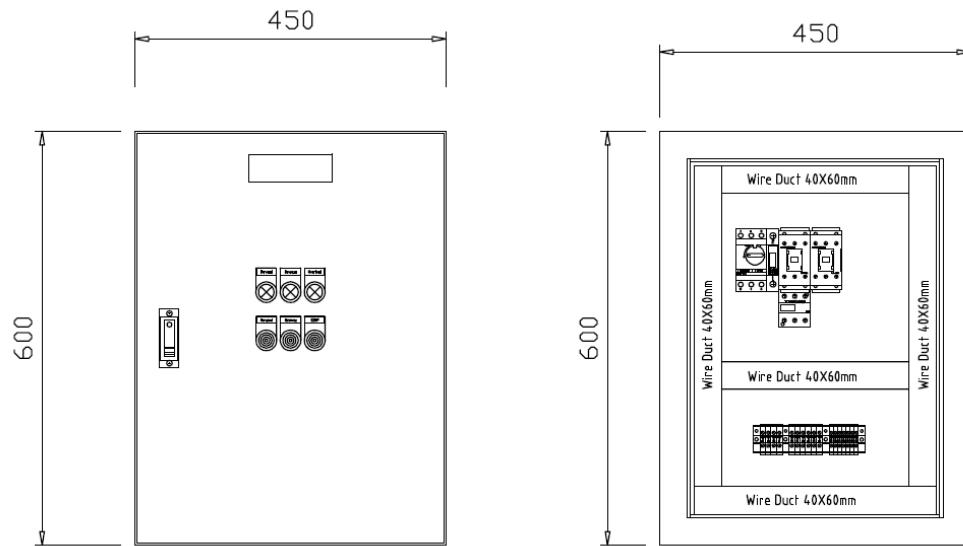

Figure 2.1 Front views and w/o front cover of Forward-Reverse motor.
1. Study the installation equipments, drawing (panel, wire duct, din rail) and install all the equipments on the panel by mounting on the plate (follow by panel layout) as shown in figure 2.1.